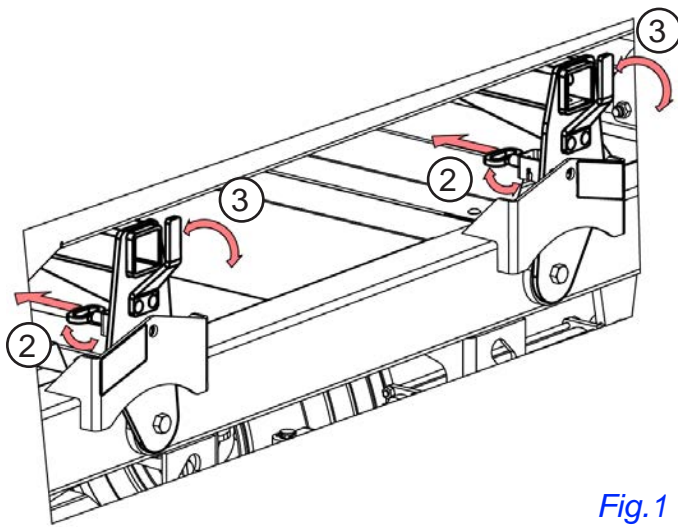

Fig. 1
2. Pull pin out and rotate clockwise to lock in open position. See Fig. 1.